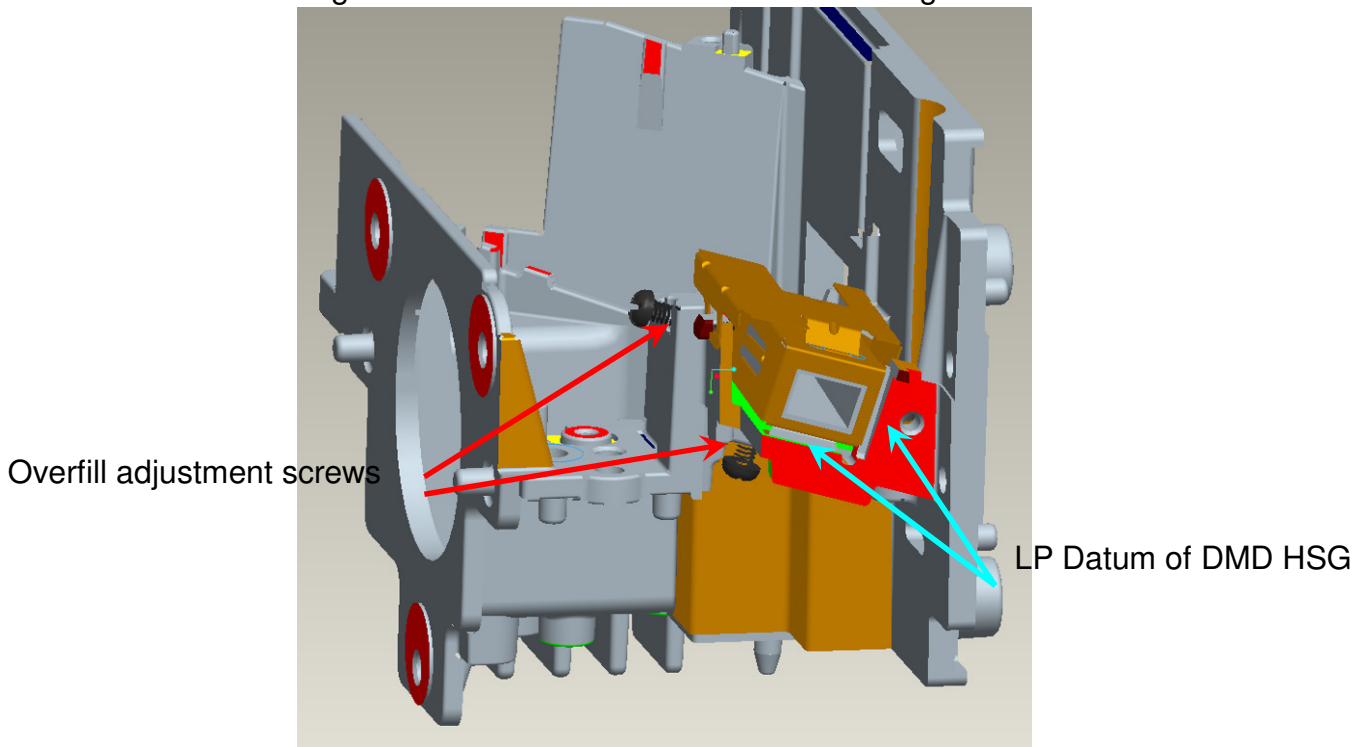

Fig. 1-20
- (4) Placed LP Module on LP datum of “DMD HSG” and adjustment screw well, shown (Fig. 1-20).